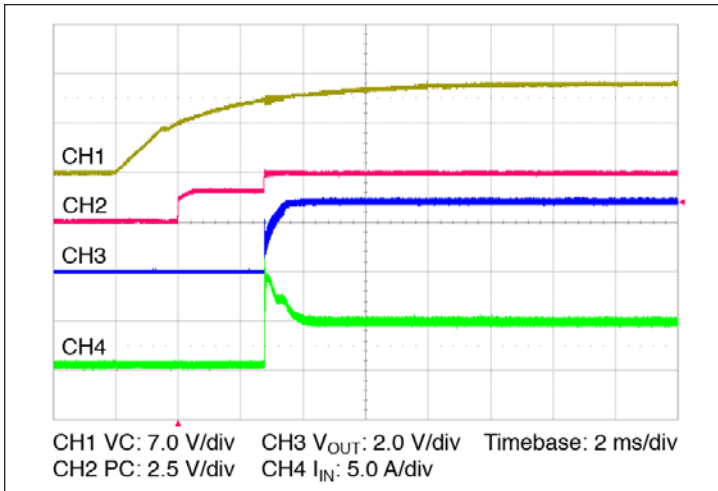

Figure 11 – Start up from application of VC; V_{IN} pre-applied
- Stand-alone operation (VC applied after V_{IN}): In this case the VTM output will begin to rise upon the application of the VC voltage (See Figure 11). The Adaptive Soft Start Circuit (See Section 11) may vary the output rate of rise in order to limit the inrush current to its maximum level. When starting into high capacitance, or a short, the output current will be limited for a maximum of 120 μ /sec. After this period, the Adaptive Soft Start Circuit will time out and the VTM module may shut down. No restart will be attempted until VC is re-applied or PC is toggled. The maximum output capacitance is limited to 16000 μ F in this mode of operation to ensure a successful start.